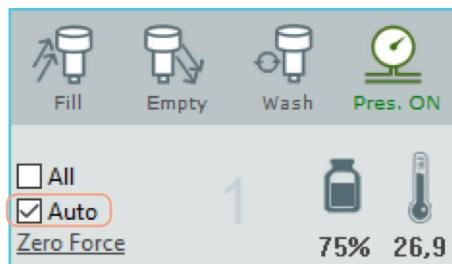

Figure 53: Selection of the Auto feature will make sure that the settings in the Filling setting will be used.
- **Auto:** The Auto function is used together with the Fill and Empty functions/buttons. If Auto is checked as in figure 53.